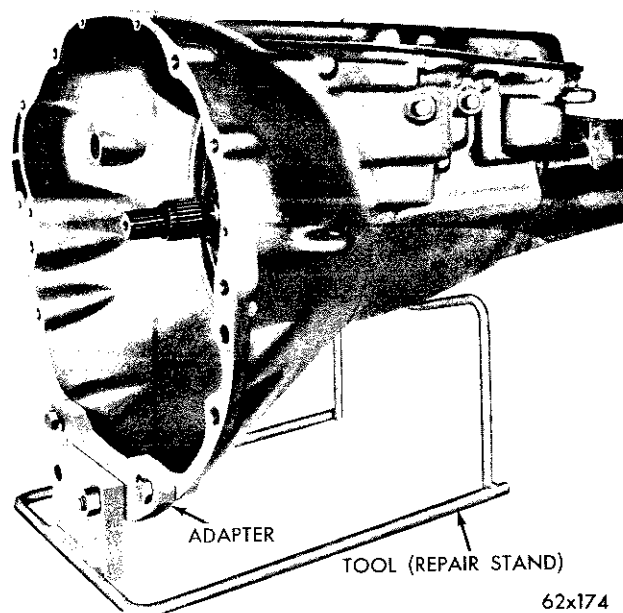

Fig. 53—Transmission Installed in Repair Stand
(1) Place the transmission assembly in repair stand, Tool C-3750 with adapter C-3882 (Fig. 53).